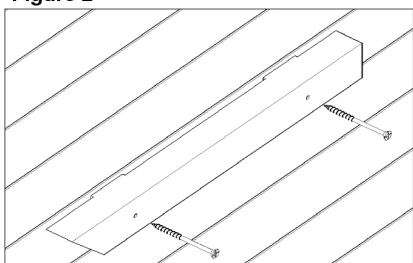

Figure 5
5. The outer sides of the supports have 3 mm higher details to guarantee ventilation between the wall and sauna bench module. (Figure 5)